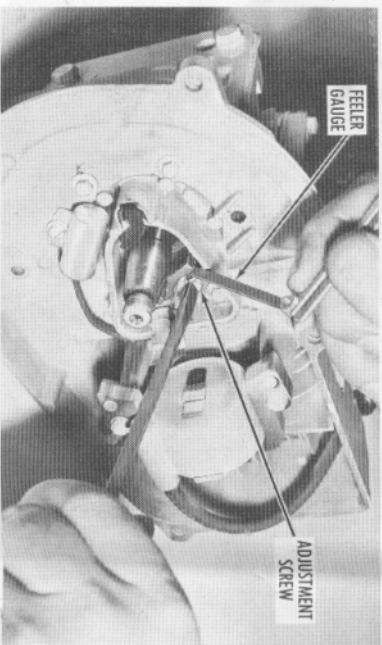

FIGURE 17
2. Loosen the screw which holds the slotted arm to the crankcase cover (Figure 17).